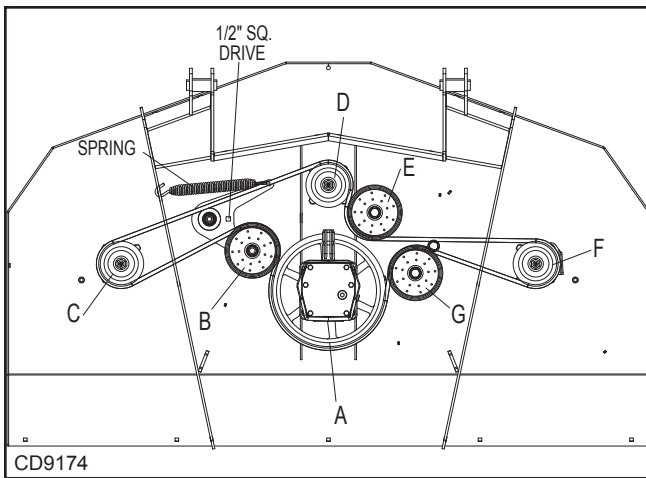

Figure 17. Belt Routing
1. Route belt around spindle sheave F, backside idler E, and spindle sheave D as shown in Figure 17.
1. Route belt around spindle sheave F, backside idler E, and spindle sheaves C & D as shown in Figure 17.